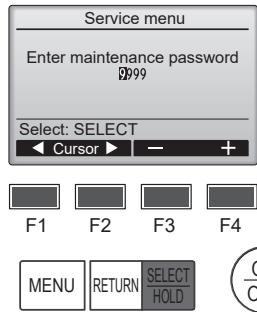

Fig. 6-2
- ① Select "Service" from the Main menu, and press the [SELECT/HOLD] button.
- ② When the Service menu is selected, a window will appear asking for the password. (Fig. 6-2)